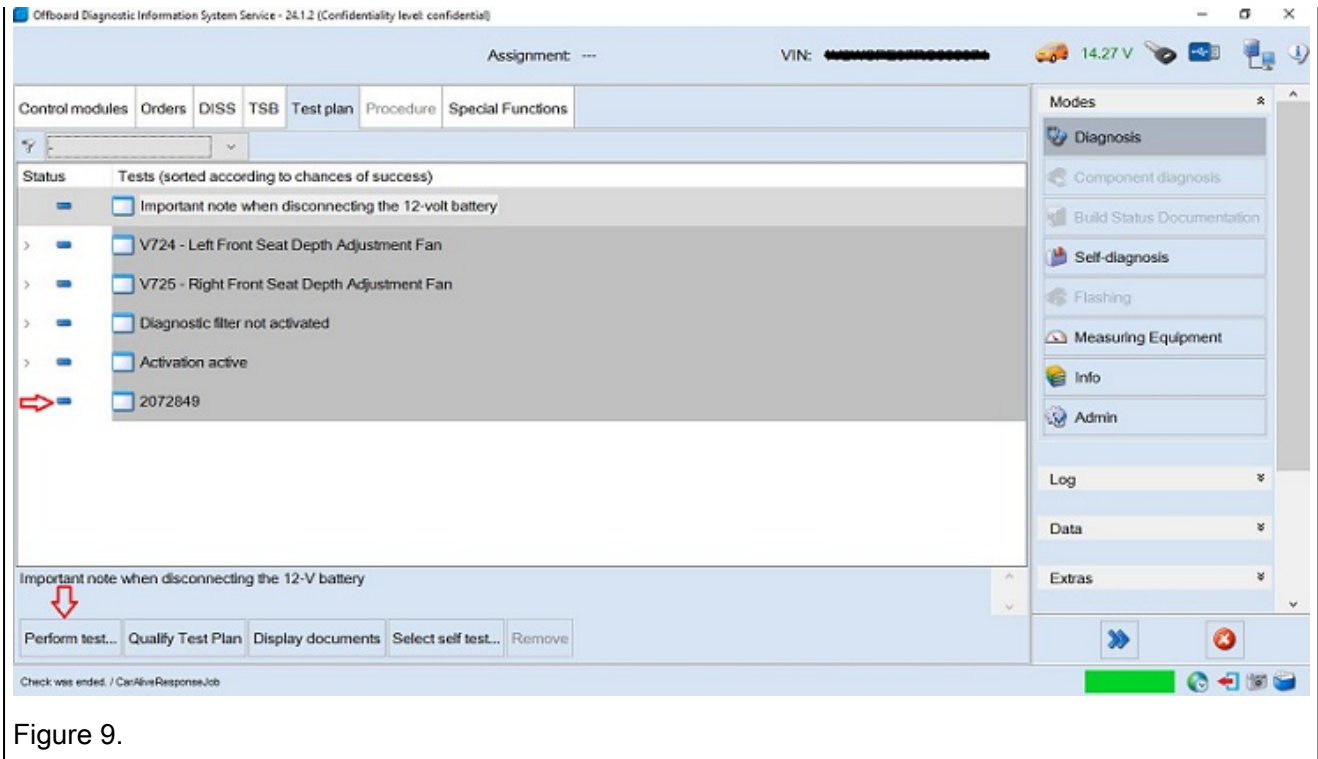

Figure 9.
9. Go to test plan, select 2072849 and depress Perform test (Figure 9).